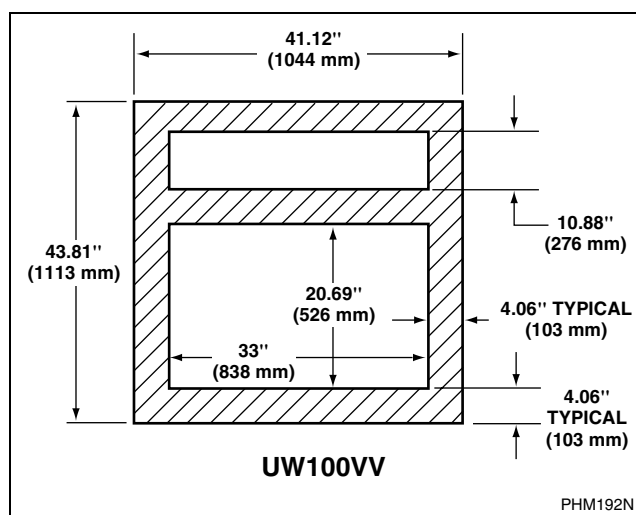
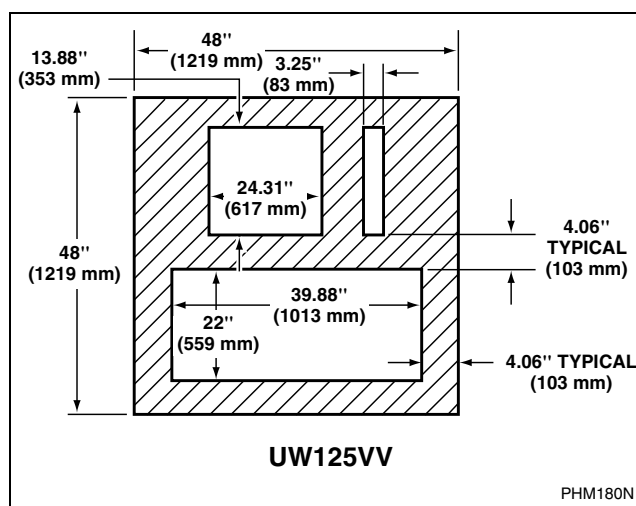

Figure 8
Figure 9
5. Fill the space between the washer-extractor base and the floor with a good quality non-shrinking machinery grout to ensure a stable installation. Grout completely under all frame members. (Remove front panel and expanded metal back panel to gain access to **all** frame members.) Refer to *Figure 8* and *Figure 9*. Force grout under machine base until all voids are filled.